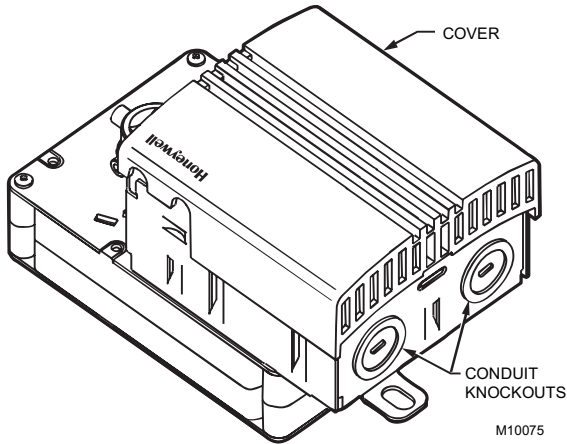

Fig. 10. Conduit cover for ML6161C,D and ML6174C,D DCA.
**Connecting Wiring to Conduit Cover Actuators (Fig. 10)**